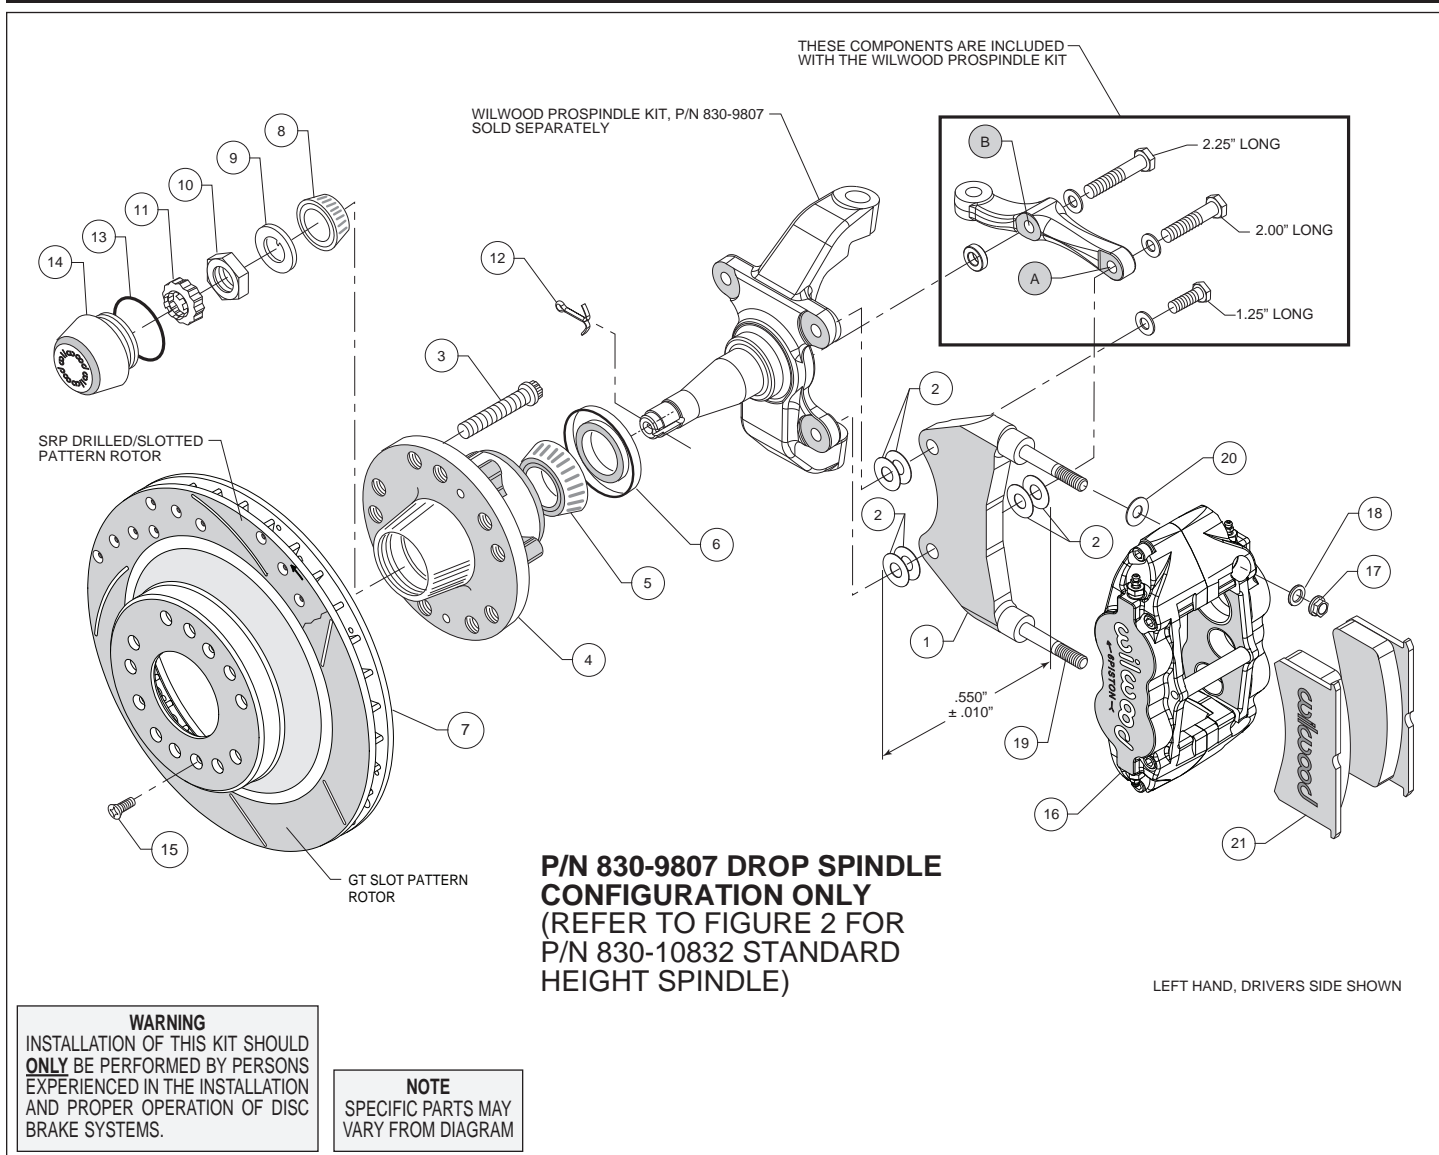

Figure 1. Installation Configuration For Drop Spindle, P/N 830-9807
Assembly Instructions (numbers in parenthesis refer to the parts list and Figures 1 or 2 on the preceding pages):
- NOTE:** Each Wilwood ProSpindle kit includes bolts, washers, and a spacer to mount the steering arm and caliper bracket. The various bolts are identified by length in the following instructions and in Figures 1 and 2.
- Orient the bracket as shown in Figure 1 and Photo 1. Install at top spindle hole using 1.25" long bolt and .06" thick washer (from ProSpindle kit), and two .016" thick shims (2) between the bracket and spindle, Figure 1.
- Orient the steering arm, and identify the hole marked 'A', as shown in Figure 1. Install at bottom spindle hole using 2.00" long bolt and .06" thick washer (from ProSpindle kit), two .016" thick shims (2) between the bracket and steering arm, and another two .016" thick shims (2) between the bracket and spindle, Figure 1. The bracket is located between the steering arm and spindle. **NOTE:** The bracket and shim washers must add up to a total thickness of .550" ± .010", Figure 1.
- Finish attaching the steering arm through the hole marked 'B', as shown in Figure 1. Install using 2.25" long bolt, .06" thick washer, and .25" thick spacer (all from ProSpindle kit), Figure 1.
- Screw dust cap (14) into hub (4), Photo 6. Friction created by the o-ring (13) on the dust cap keeps it from unscrewing.
- Slide the hat/rotor (7) onto the hub (4) taking care to align the small countersunk holes in the hat with the small threaded holes in the hub. **NOTE:** The hat must fit flush against the hub face or excessive rotor run out may result. Install three flat head screws (15) through the small holes in the hat (7), Photo 6, and torque to 85 in-lb.
- NOTE:** This kit contains distinct right and left hand calipers that must be mounted in a specific direction, as described below. Lubricate the caliper mounting studs (19) with lightweight oil. Initially place one .035" thick shim (20) on each stud as shown in Figure 1 or 2, and Photo 7. Mount the caliper (16) onto the bracket (1) using lock nuts (17) and washers (18), Figure 1 or 2. Ensure that the caliper is mounted so that the largest pistons are at the rotor exit end of the caliper, in relation to the direction of rotor rotation. Temporarily tighten the lock nuts and view the rotor through the top opening of the caliper. The rotor should be centered in the caliper, Photo 8. If not, proceed as follows:
- Adjust by adding or subtracting shims (2) between the bracket and the spindle. Always use the same amount of shims on each of the two bolts between bracket and spindle.
- For the lower bracket mount bolt, if a shim was added between the bracket and spindle, then a shim must be removed between the steering arm and bracket, such that the total thickness of bracket and shims remain equal to .550 ± .010", Figure 1.